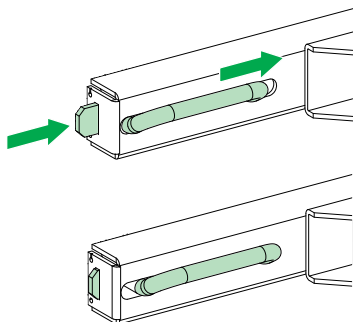

Figure 75
- De-latch the locking handles towards each other to release the VCB from the transport trolley. Refer to Figure 75.
5. De-latch the locking handles towards each other to release the VCB from the cubicle. Refer to Figure 75 in Insertion of the EvoPacT HVX VCB into the Cubicle, page 80.
7. Latch the locking handles of the VCB in the cubicle. Refer to Figure 75 in Insertion of the EvoPacT HVX VCB into the Cubicle, page 80.